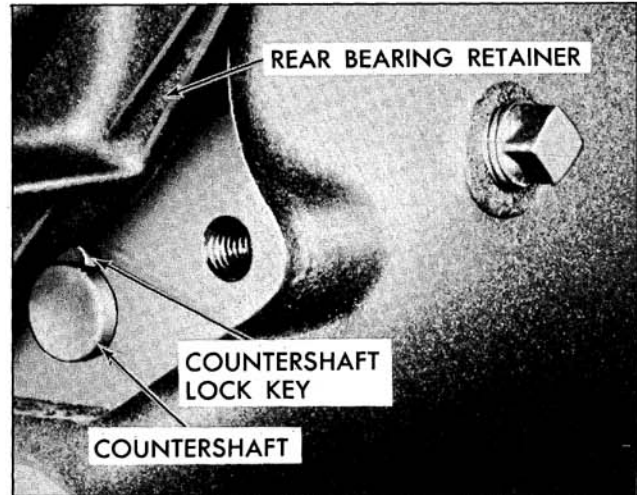

Fig. 7-45 Countershaft Installation
16. With rear bearing retainer rotated as shown in Fig. 7-45, insert countershaft through exposed shaft opening in rear of case. Make sure the shaft passes through both thrust washers before entering countergear.